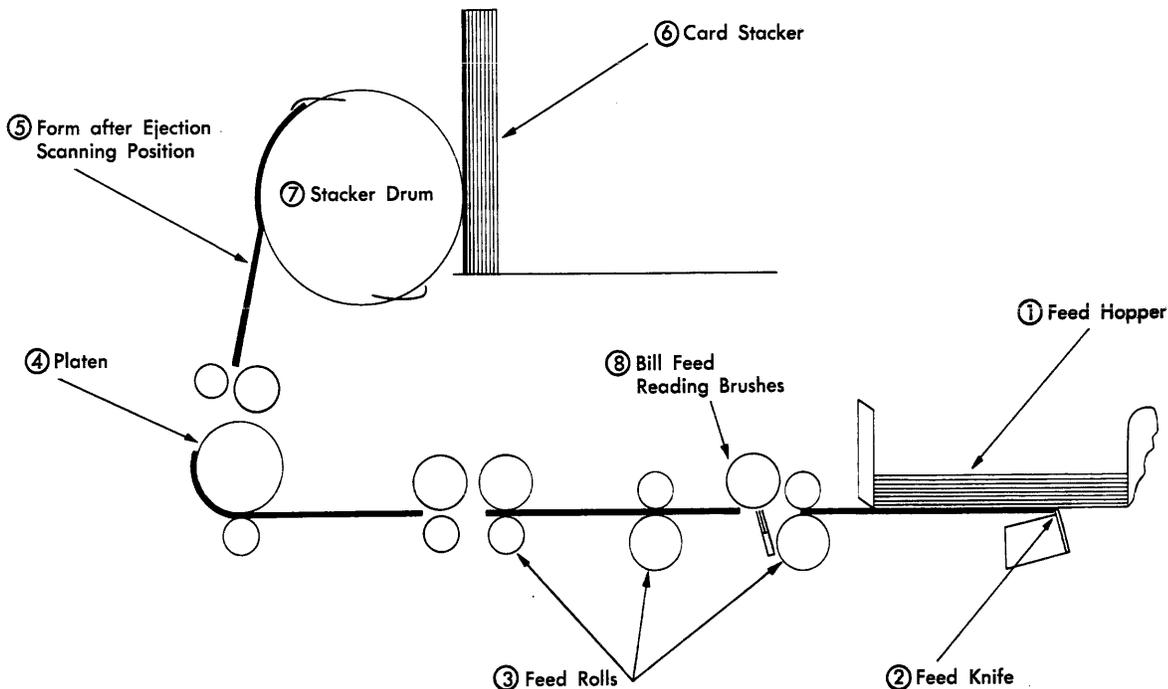
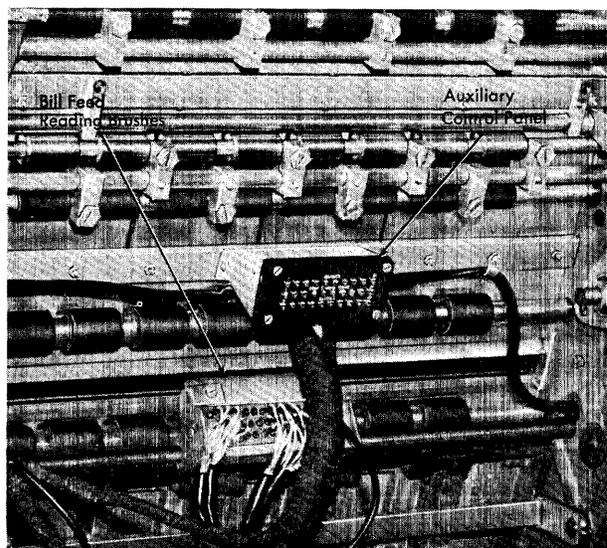

Figure 97. Schematic of Form Feeding
Figure 103. Reading Brushes and Auxiliary Control Panel
As shown in Figure 97, forms are placed in the bill-feed hopper (1) face down, top edge toward the throat. They are moved by feed knives (2) out of the hopper and into feed rolls (3), which move the forms against the bottom edge of the platen (4). As the previous form is ejected, the next form is drawn into position to receive the first line of printing. This ejection movement takes place between machine cycles, so that a form is always in the printing position and there is no resultant loss of accounting-machine time. After ejection, the form resets in the scanning position (5) until the next form is ejected. During this next eject cycle, the form is moved from the scanning position to the card stacker (6) by action of the stacker drum (7).
Reading Brushes. The punched cards are fed face down, 12-edge first, and are read by a set of 45 brushes (Figure 103) mounted on the bill feed (see *Schematic of Form Feeding*, Figure 97). The brush holder can be positioned to read any 45 adjacent columns of the card. Once the brush holder has been set, it should not be moved. A second holder of 21 brushes (optional) is needed if any two bill-feed card columns, not within the 45-column span, are to be read in either the same or another operation. If two brush holders are adjusted as close together as possible, the separation between brush 45 of the first holder and brush 1 of the second is equal to the width of nine columns. When column 1 or 80 is used for comparing, the edge of the card must be $\frac{1}{8}$ inch from the side frame for mechanical clearance.
Auxiliary Control Panel. Numerical control information read by the bill-feed brushes can be made available for controlling the accounting machine by wiring an auxiliary control panel, located underneath the bill-feed mechanism (Figure 103). The panel contains the following hubs: